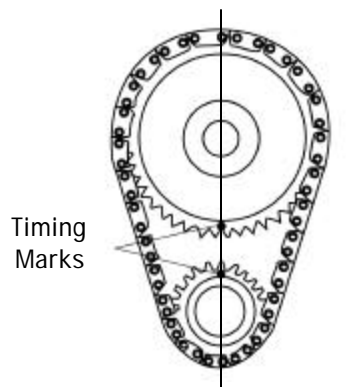

Figure 2
15. Remove fuel pump and fuel pump pushrod (vehicles with mechanical fuel pumps only). Rotate engine until timing marks are aligned (See Fig. 2).
- **PUSHRODS AND ROCKER ARMS:** High performance pushrods and adjustable rocker arms and studs are recommended for this installation. After the cam is installed and timed correctly (See Fig. 2), it will be necessary to check each pushrod for correct lifter preload.
4. Install camshaft with timing marks lined up as recommended by factory specifications (See Fig. 2).